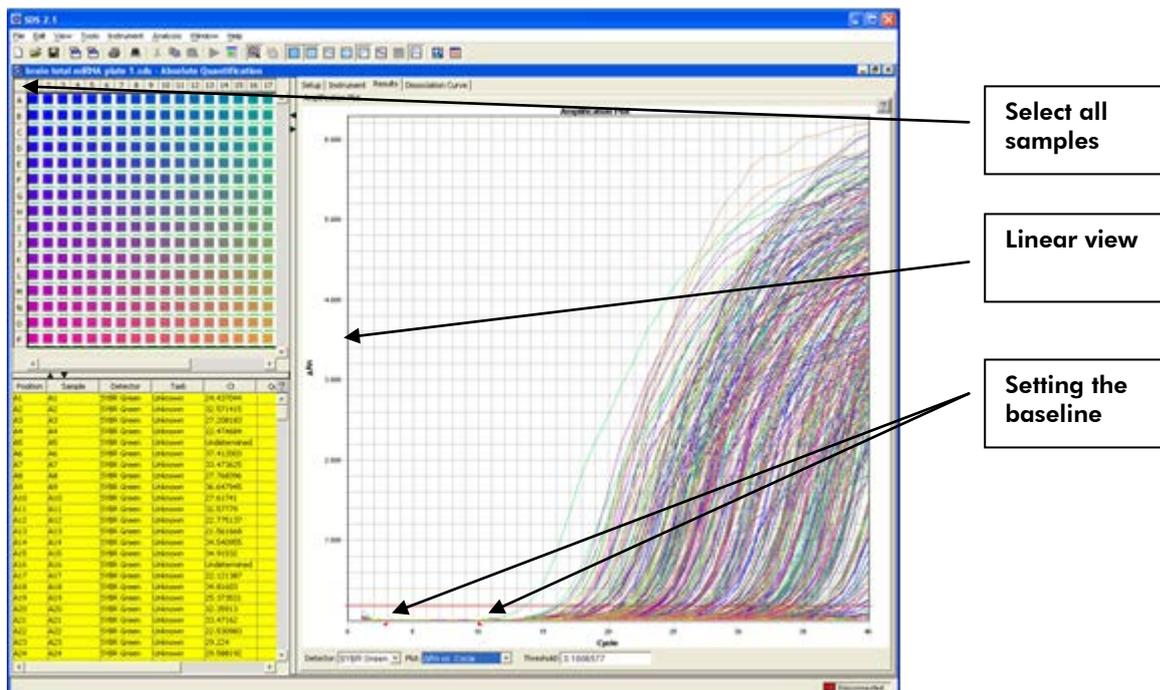

Figure 4. Setting the baseline.
13. Follow the procedures below to select the baseline and threshold manually (see Figures 4 and 5):